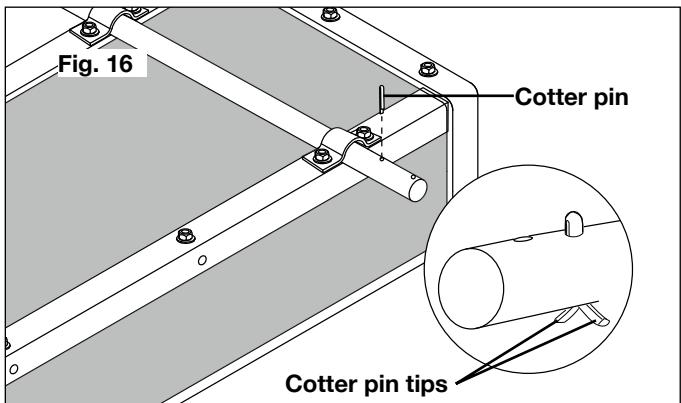

Fig. 16
17. Insert a cotter pin into the inner hole on the axle, and bend each tip of the cotter pin outward and backward around the axle to secure it (Fig. 16).